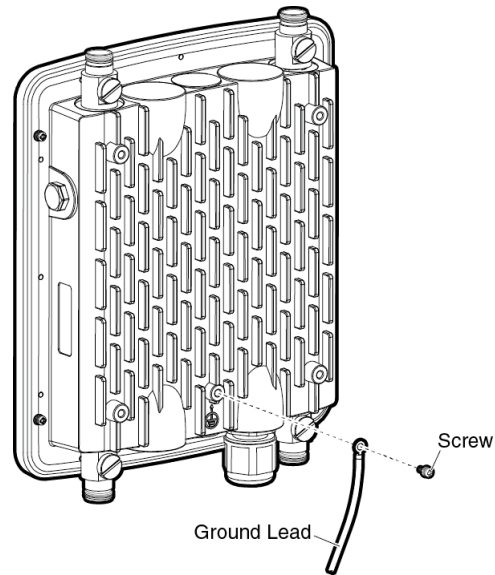

Figure 9. Aligning the Access Point with Ground Cable
1. Align the ground cable hole on the access point with the ring terminal of the ground cable as shown in Figure 9 on page 38.